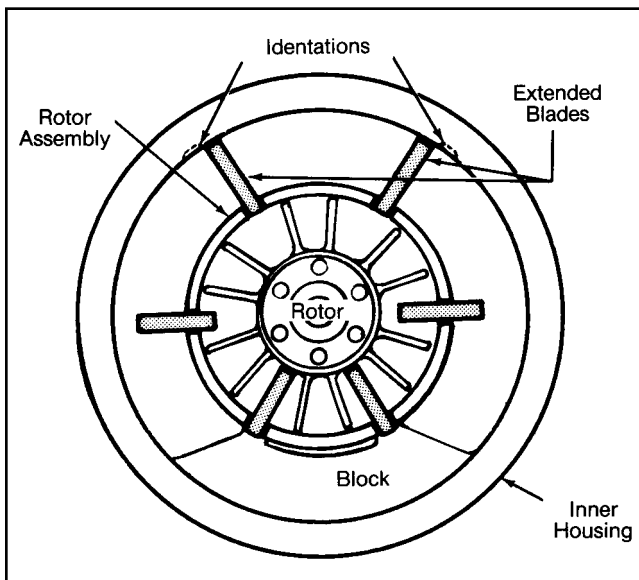

Figure 58
- c. Line up rotor so that the extended blades are just inside of the indentations in the case (opposite the block) at either end of the measuring chamber, Figure 58.